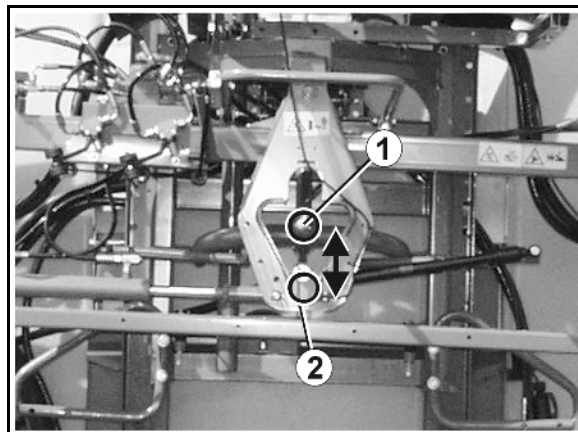

Fig. 60
Unlocking the swing compensation (Fig. 60/1):
- The swing compensation is unlocked (Fig. 60/1), when the display of **AMATRON⁺** shows the open lock symbol.
- The swing compensation (Fig. 60/1) is unlocked and the unfolded sprayer boom can freely swing against the boom carrier. For better demonstration the guard of the swing compensation has been removed.
Locking the swing compensation (Fig. 60/2):
The swing compensation is locked (Fig. 60/2), when the display of **AMATRON⁺** shows the closed lock symbol.